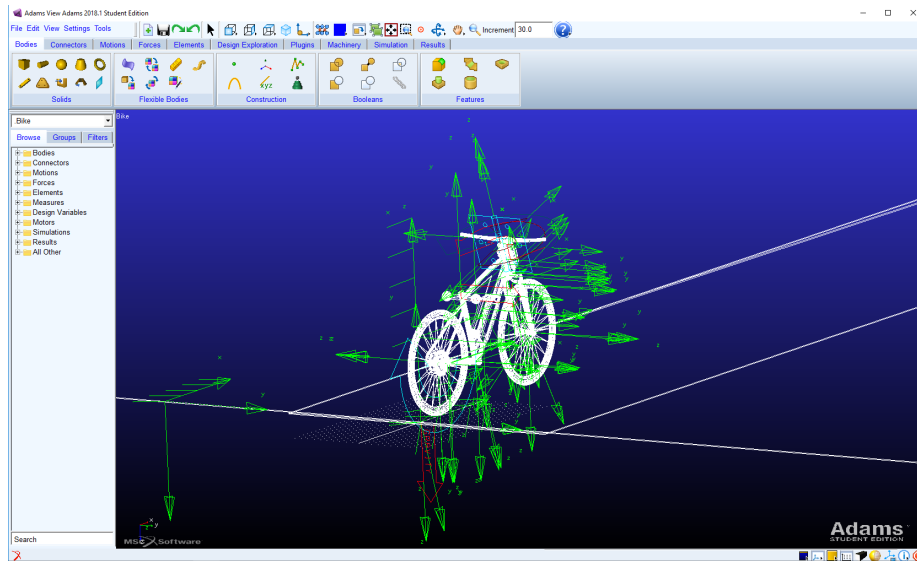

Figure 1:
4. Good job! You have now successfully opened the ADAMS workspace containing a bicycle which is based on the CAD model, should look something like Figure 1. If you are interested in the CAD model you can find it in *Bicycle CAD + Simulation files\Bicycle CAD-Files*.